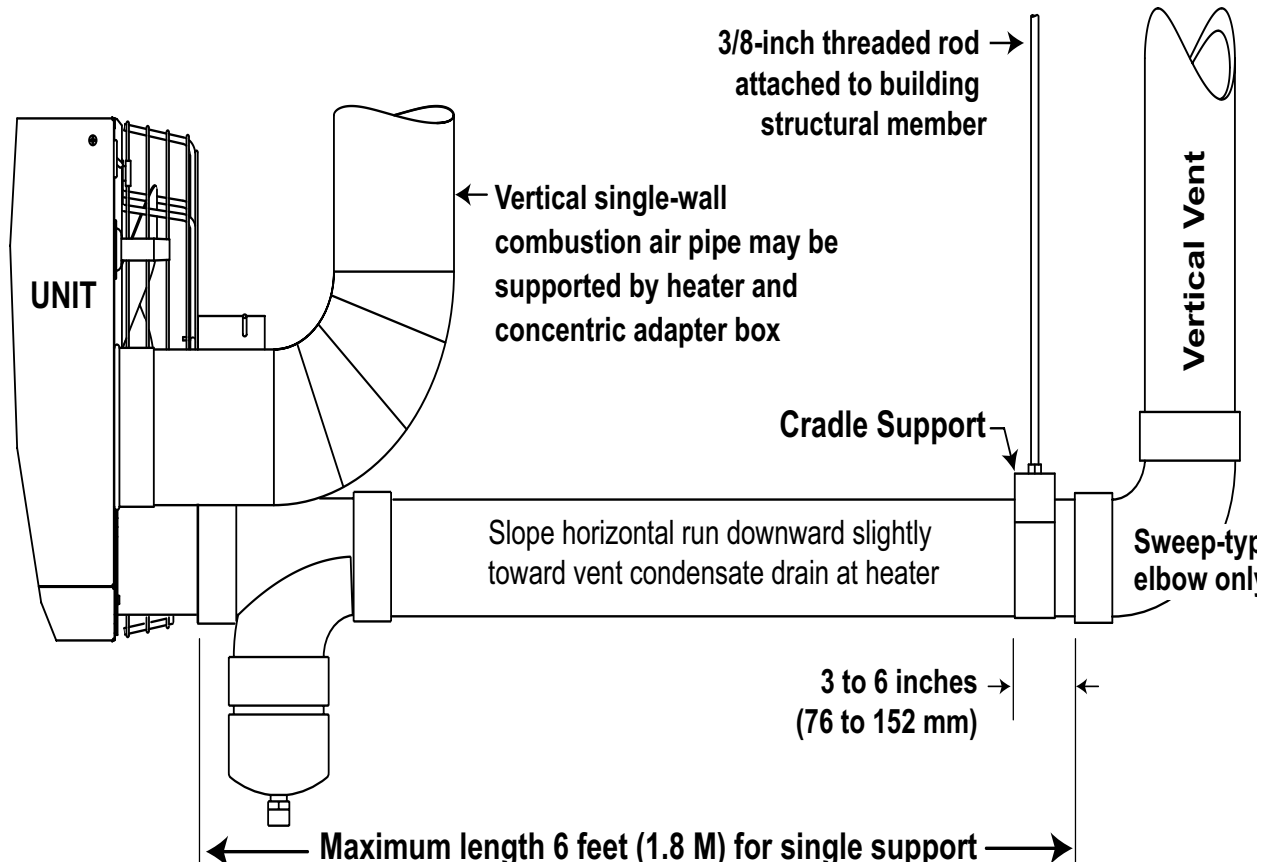

Figure 4. Vent Pipe Support
- **Vertical CPVC or PVC vent:** it is recommended that an engineer design the vertical support system. An acceptable field-supplied cradle-type support that allows for expansion for a simple vertical vent that is 30 feet (9.1 meters) or less and rises closely from the heater is shown in Figure 4.